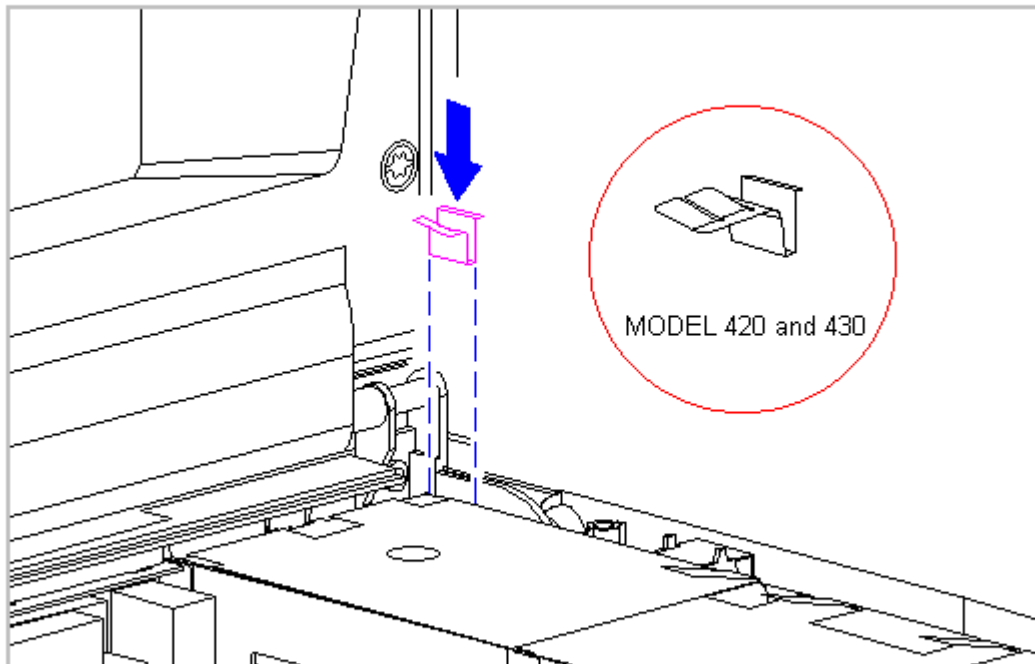

Figure 3-183. Replacing the Right Clutch Ground Clip (All Models)
34. Replace the right clutch ground clip located between the clutch and the CPU base. The right clutch clip for Models 420 and 430 is different and is illustrated in the insert Figure 3-183).